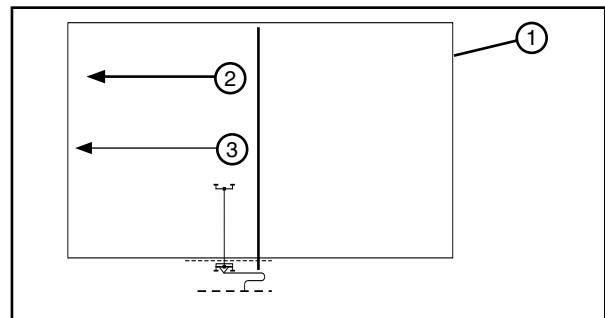

Figure 41-4 1. Field 2. Direction of Travel 3. Wet or Dry
2. At the middle of the field the system direction is reversed. Set the percentage timer and run the system either wet or dry back to the original end of the field. See Figure 41-4.